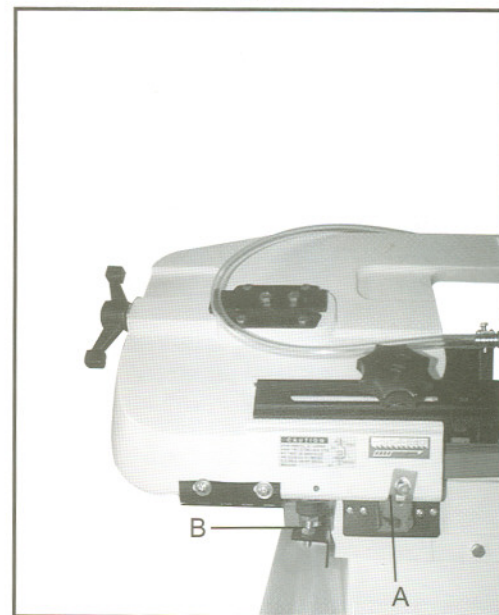

Fig. 19
1. If the saw completes the cut and continues to run, adjust the stop tip (A, Fig. 19) down.
2. If the saw shuts off before the cut is complete, adjust the stop tip (A, Fig. 19) up.
3. If the saw stops cutting but continues to run, adjust the stop bolt (B, Fig. 19).